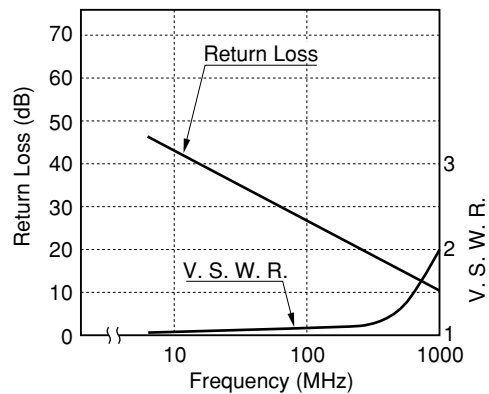

Figure 3.9 High-frequency characteristics
Figure 3.9 shows the performance of the EC2 and the EE2 series relays when a high-frequency signal is switched by the contacts of the relay. Figure 3.9 (1) shows the test circuit. Figure 3.9 (2) shows the isolation loss of the relay. Figure 3.9 (3) and Figure 3.9 (4) respectively show the insertion loss and return loss.
(1) Test circuit